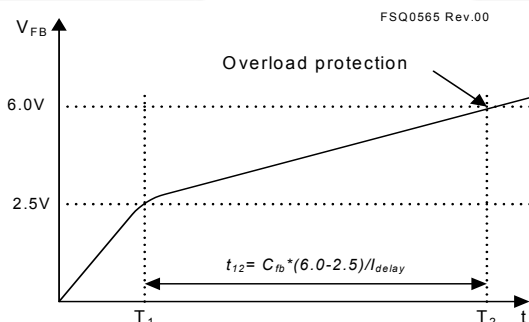

Figure 30. Overload Protection
4.1 Overload Protection (OLP): Overload is defined as the load current exceeding its normal level due to an unexpected abnormal event. In this situation, the protection circuit should trigger to protect the SMPS. However, even when the SMPS is in the normal operation, the overload protection circuit can be triggered during the load transition. To avoid this undesired operation, the overload protection circuit is designed to trigger only after a specified time to determine whether it is a transient situation or a true overload situation. Because of the pulse-by-pulse current limit capability, the maximum peak current through the SenseFET is limited, and therefore the maximum input power is restricted with a given input voltage. If the output consumes more than this maximum power, the output voltage (V_O) decreases below the set voltage. This reduces the current through the opto-coupler LED, which also reduces the opto-coupler transistor current, thus increasing the feedback voltage (V_{FB}). If V_{FB} exceeds 2.5V, D1 is blocked and the 5 μ A current source starts to charge C_B slowly up to V_{CC} . In this condition, V_{FB} continues increasing until it reaches 6V, when the switching operation is terminated, as shown in Figure 30. The delay time for shutdown is the time required to charge C_B from 2.5V to 6V with 5 μ A. A 20 ~ 50ms delay time is typical for most applications.